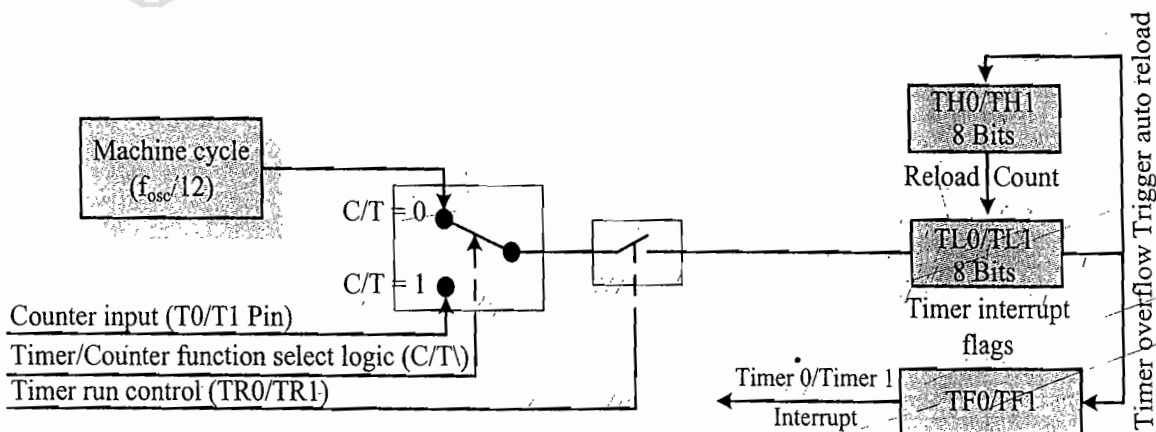

Fig. 5.29 Timer (Counter) 0/Timer (Counter) 1 in Mode 2
5.3.8.3 Timer/Counter in Mode 2 (Auto Reload Mode) Timer (Counter) 0/ Timer (Counter) 1 in mode 2 acts as 8bit timer/counter (TL0 for Timer (Counter) 0 and TL1 for Timer (Counter) 1) with auto reload on the timer/counter register overflow (TL0 or TL1) (Fig. 5.29). The timer/counter mode selection is done by the bit C/T of the register TMOD. Timer (Counter) 0 & Timer (Counter) 1 has separate selection bits as described earlier. If Timer 0 is configured as timer and if the corresponding run control bit for Timer 0 (TR0) in Timer Control Unit (TCON) is set, register TL0 functions as 8bit register and starts incrementing from its current value. The timer register is incremented by one on each machine cycle. When the Timer register rolls over from all 1s to all 0s (FFH to 00H), the corresponding timer overflow flag TF0, present in TCON register is set and TL0 is reloaded with the value from TH0. TH0 remains unchanged. If Timer 0 interrupt is in the enabled state and no other conditions block the Timer 0 interrupt, it is vectored to the corresponding vector address 000BH. On vectoring the interrupt, the TF0 flag is automatically cleared. Operation of Timer 1 in mode 2 is same as that of Timer 0 except that for Timer 1 the 8bit timer register is formed by the register TL1 and the corresponding Timer run control bit is TR1. The Timer 1 overflow flag is TF1 and the corresponding interrupt vector location is 001BH. It is advised to set the GATE control bit to 0 for timer operations. If the GATE control is set to 1, the timer register is incremented in accordance with each machine cycle only if the corresponding Interrupt line INTx is high (INT0 for Timer 0 and INT1 for Timer 1).